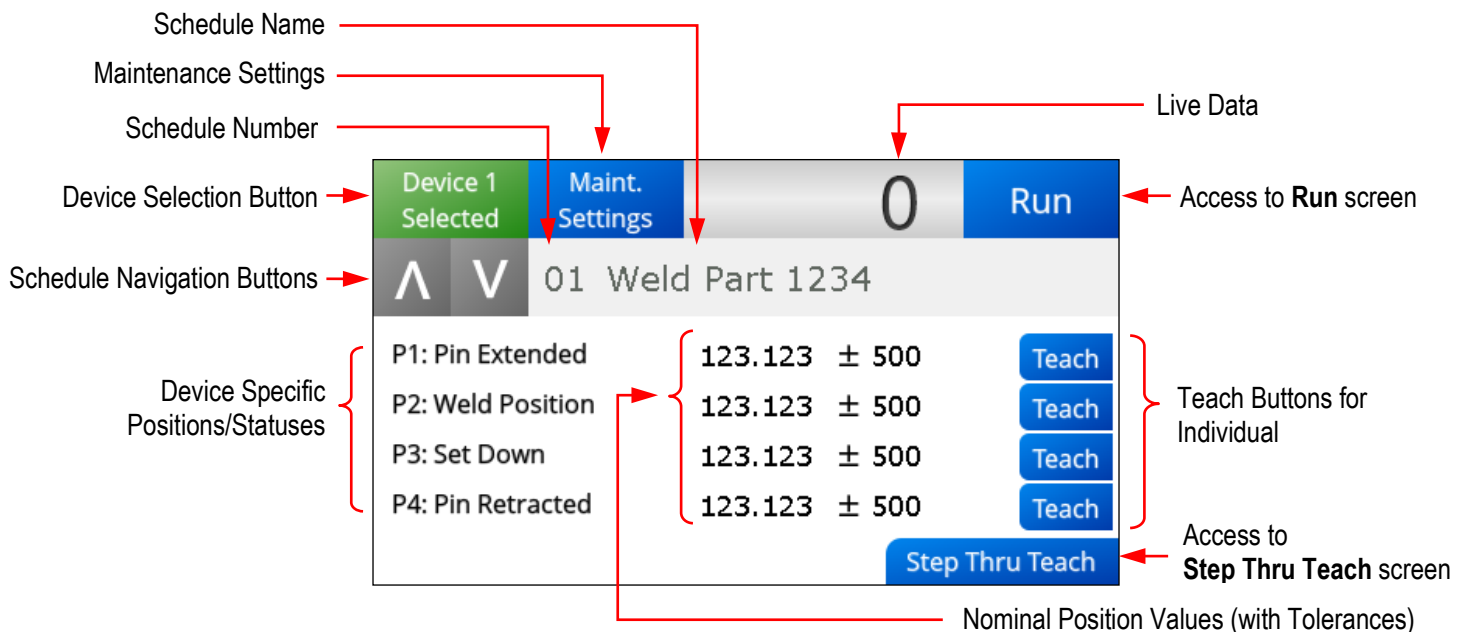

Figure 13 – Teach Screen
The following areas can be identified on the Teach screen (see Figure 13 above):
- Device 1 Selected – Allows the user to select between the two devices connected to the MicroView, with the intent of teaching schedules for the selected device. In Figure 13 above, for example, Device 1 is a VeriFast™ LVDT (or IA). The user can now select or define a schedule for the current device. Within the current schedule, the user can program the P1, P2, P3, and P4 positions/statuses listed on the screen. See the bullets that follow.
- **Nominal** (position value) – This field indicates the already taught value (if any) for the currently selected position/status (P1, P2, P3, or P4). (**Note:** This value corresponds to the *Nominal Position Values* shown in Figure 13 – Teach Screen on page 31).